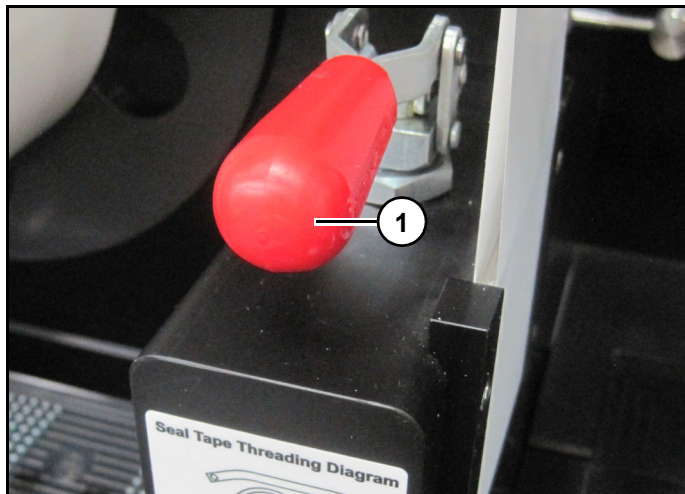

Figure 10
12. When seal tape is needed, push nip roller lever (1) (Figure 10) to clamped position.